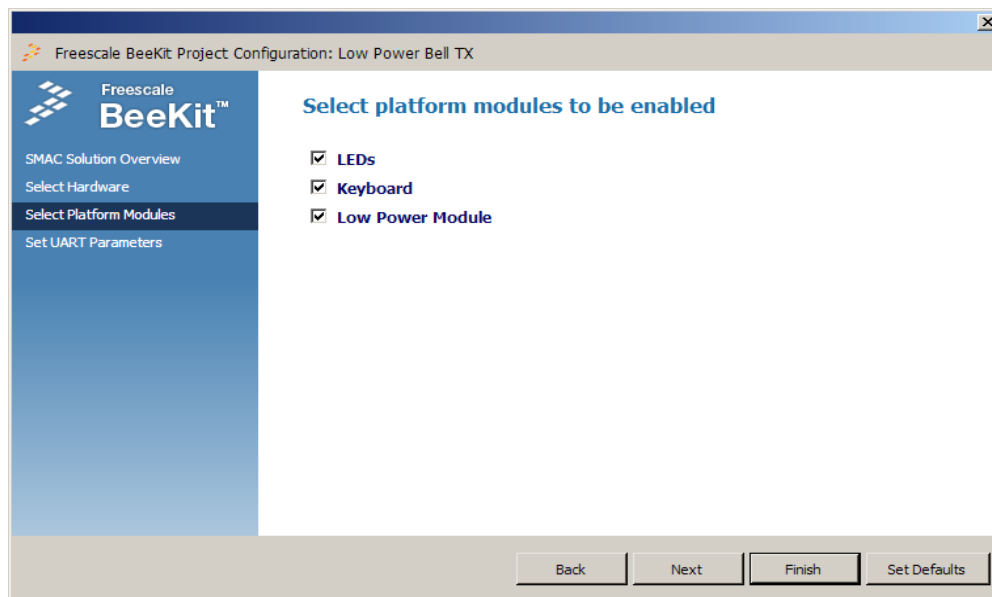

Figure 4. Enabling Low Power Module at BeeKit wizard
1. When generating the project as described in Section “CROSS REFERENCE to 3.1”: at Step 4 check the Low Power Module check box when running the wizard as show at Figure 4